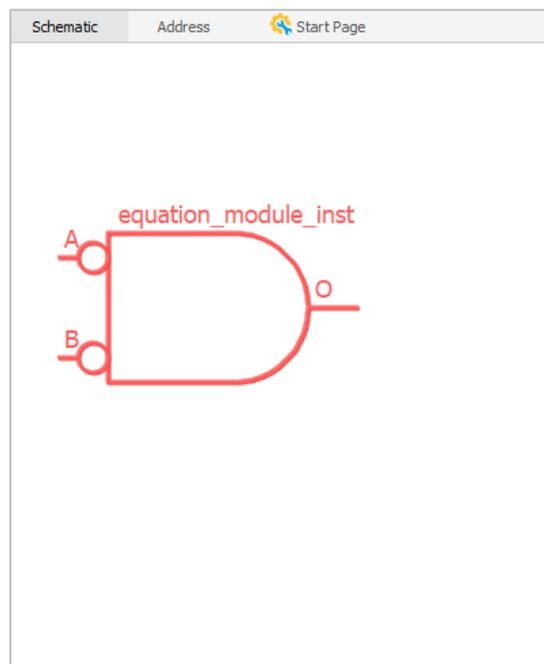

Figure 2.32. Schematic View Shows an Equation Module
3. Click **OK**. The schematic block for the equation module in red appears in the Schematic view (Figure 2.32).